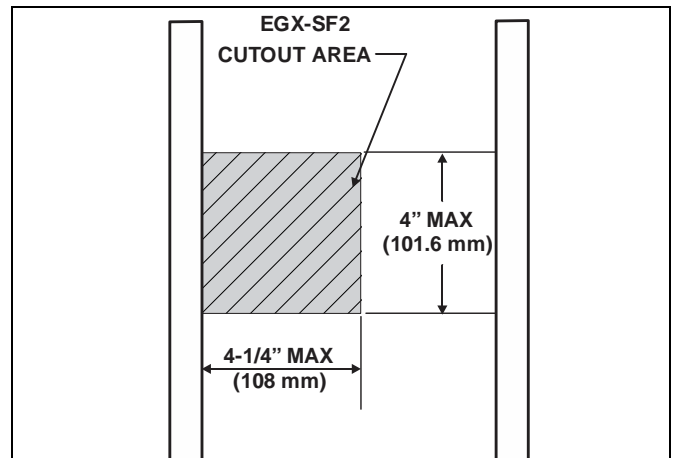

Figure 12
6. Install drywall around outlet box. Cut an opening around the box meeting the dimensions shown in Figure 12 next to the stud used to attach new work clip. (See Figure 12)